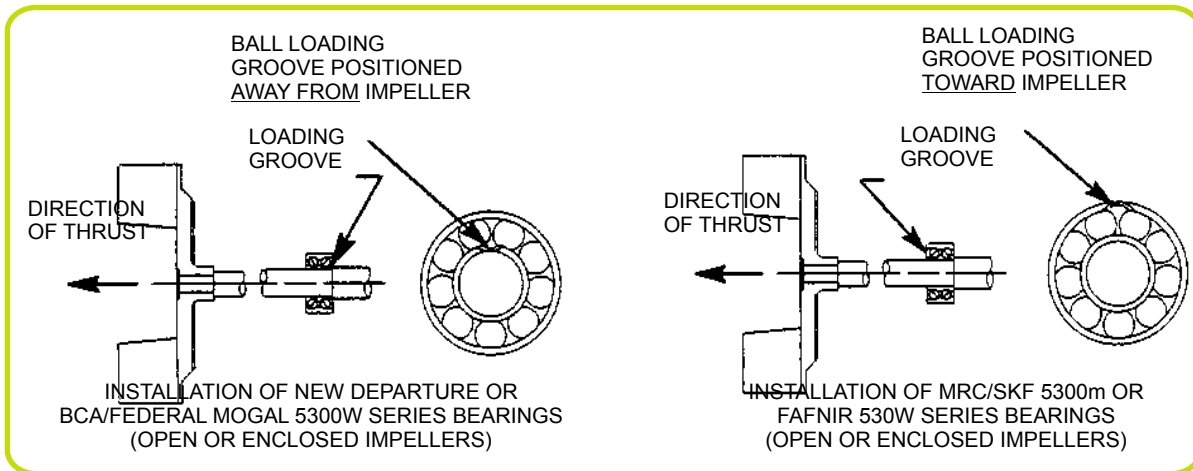

Figure 13. Inboard Bearing Positioning
NOTE: Position the inboard bearing (4) on the shaft as indicated by the following illustration. (Figure 13, Below)